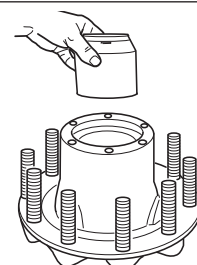

Figure 5
6. Turn the hub over, and place it seal-end down. Place the bearing spacer in the hub cavity ensuring that the small end, if present, faces the outboard end of the hub (see Figure 5).